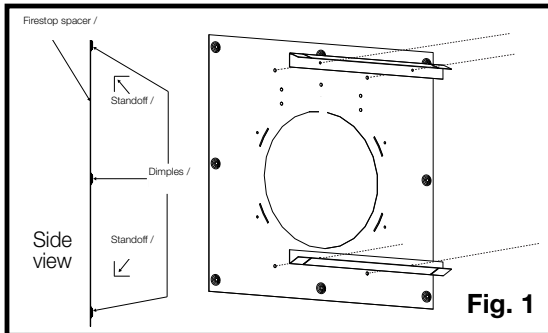

Fig. 1
1. Install standoffs onto the firestop spacer (**Fig. 1**).